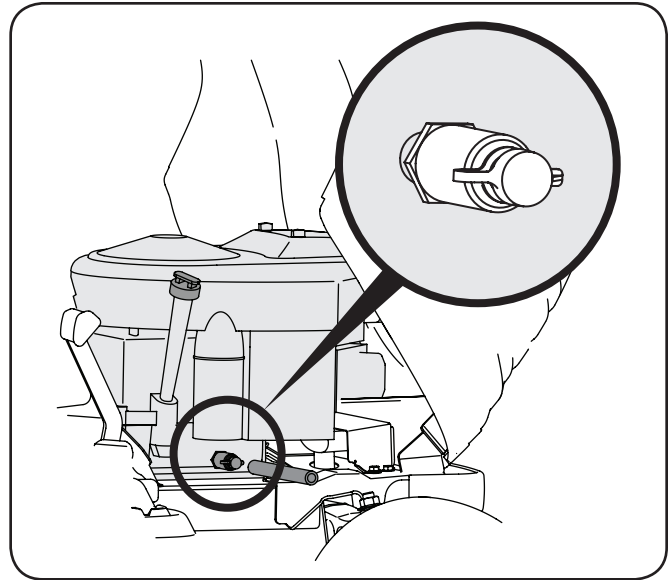

Figure 6-1
3. Pop open the protective cap on the end of the oil drain valve to expose the drain port. See Figure 6-1.
6. Rotate the drain valve counter-clockwise and release to drain the oil. See Figure 6-1.